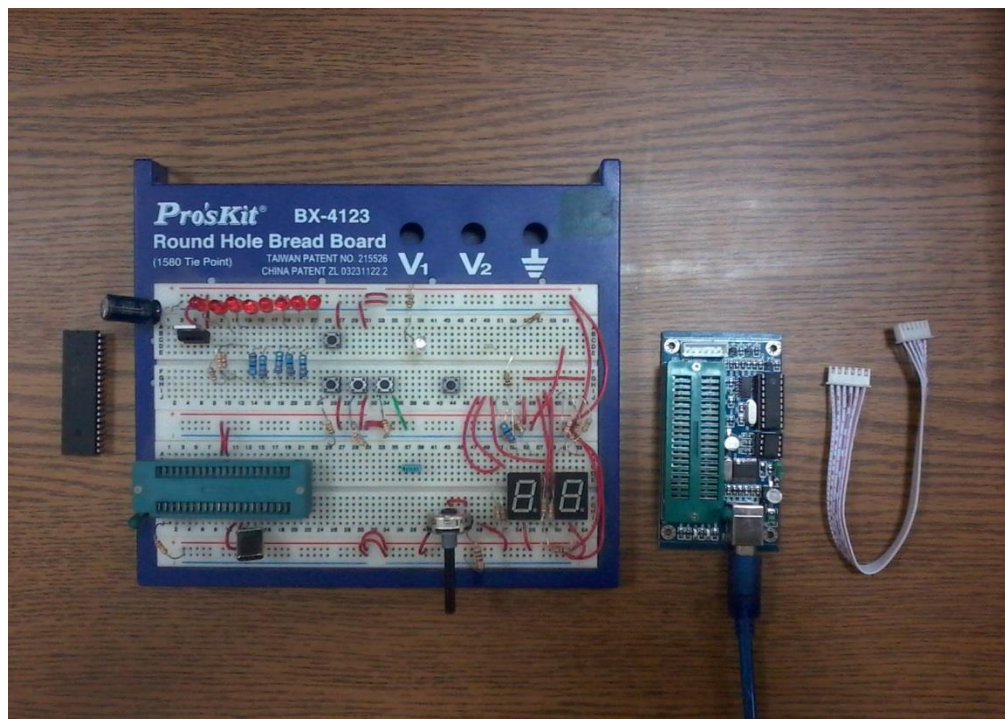

Figure 3.1: Equipment and devices used in the experiment.
3. Breadboard and electronic components as shown in Figure 3.1